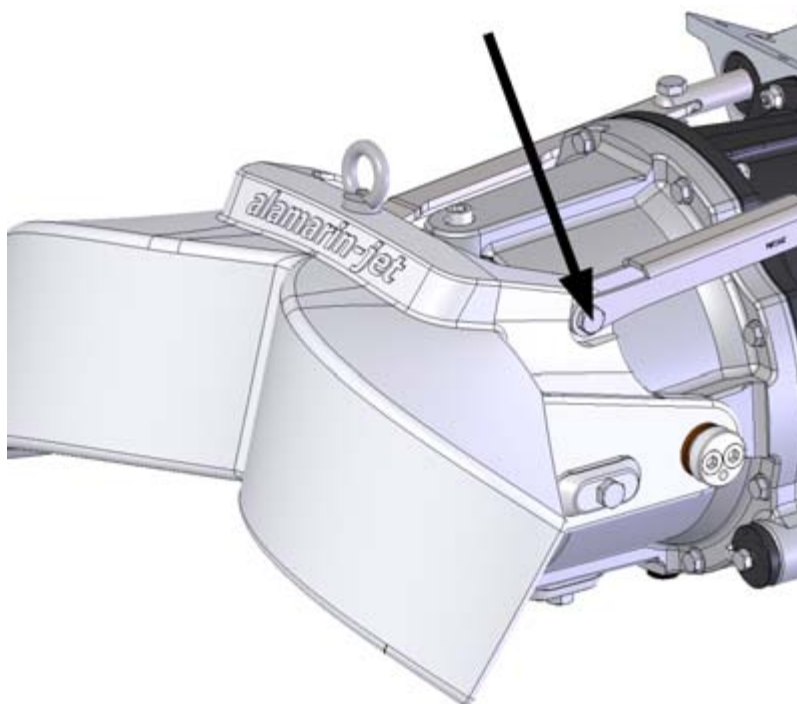
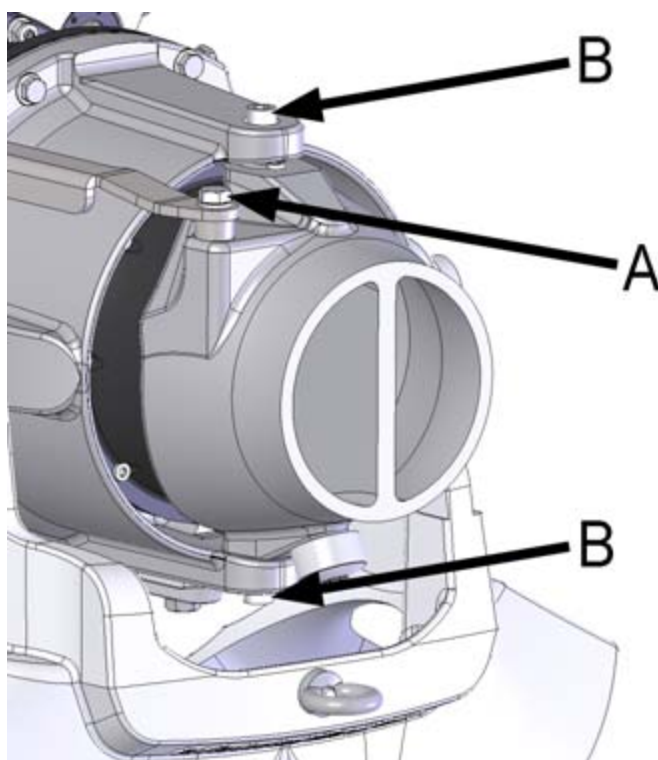

Figure 85. Connecting the reversing deflector connecting rod
Figure 86. Removing the steering nozzle
1. Open the connection of the reversing deflector connecting rod (figure 85) and lower the deflector.
2. Detach the control cylinder connection from the steering nozzle (figure 86, point A).
3. Open the steering nozzle joint screws (figure 86, point B).
4. Attach the connection of the reversing deflector connecting rod (figure 85).
1. Remove the joint between the reversing deflector and the hydraulic cylinder (figure 85) as well as the joint between the steering nozzle and the steering cylinder (figure 86, point A).